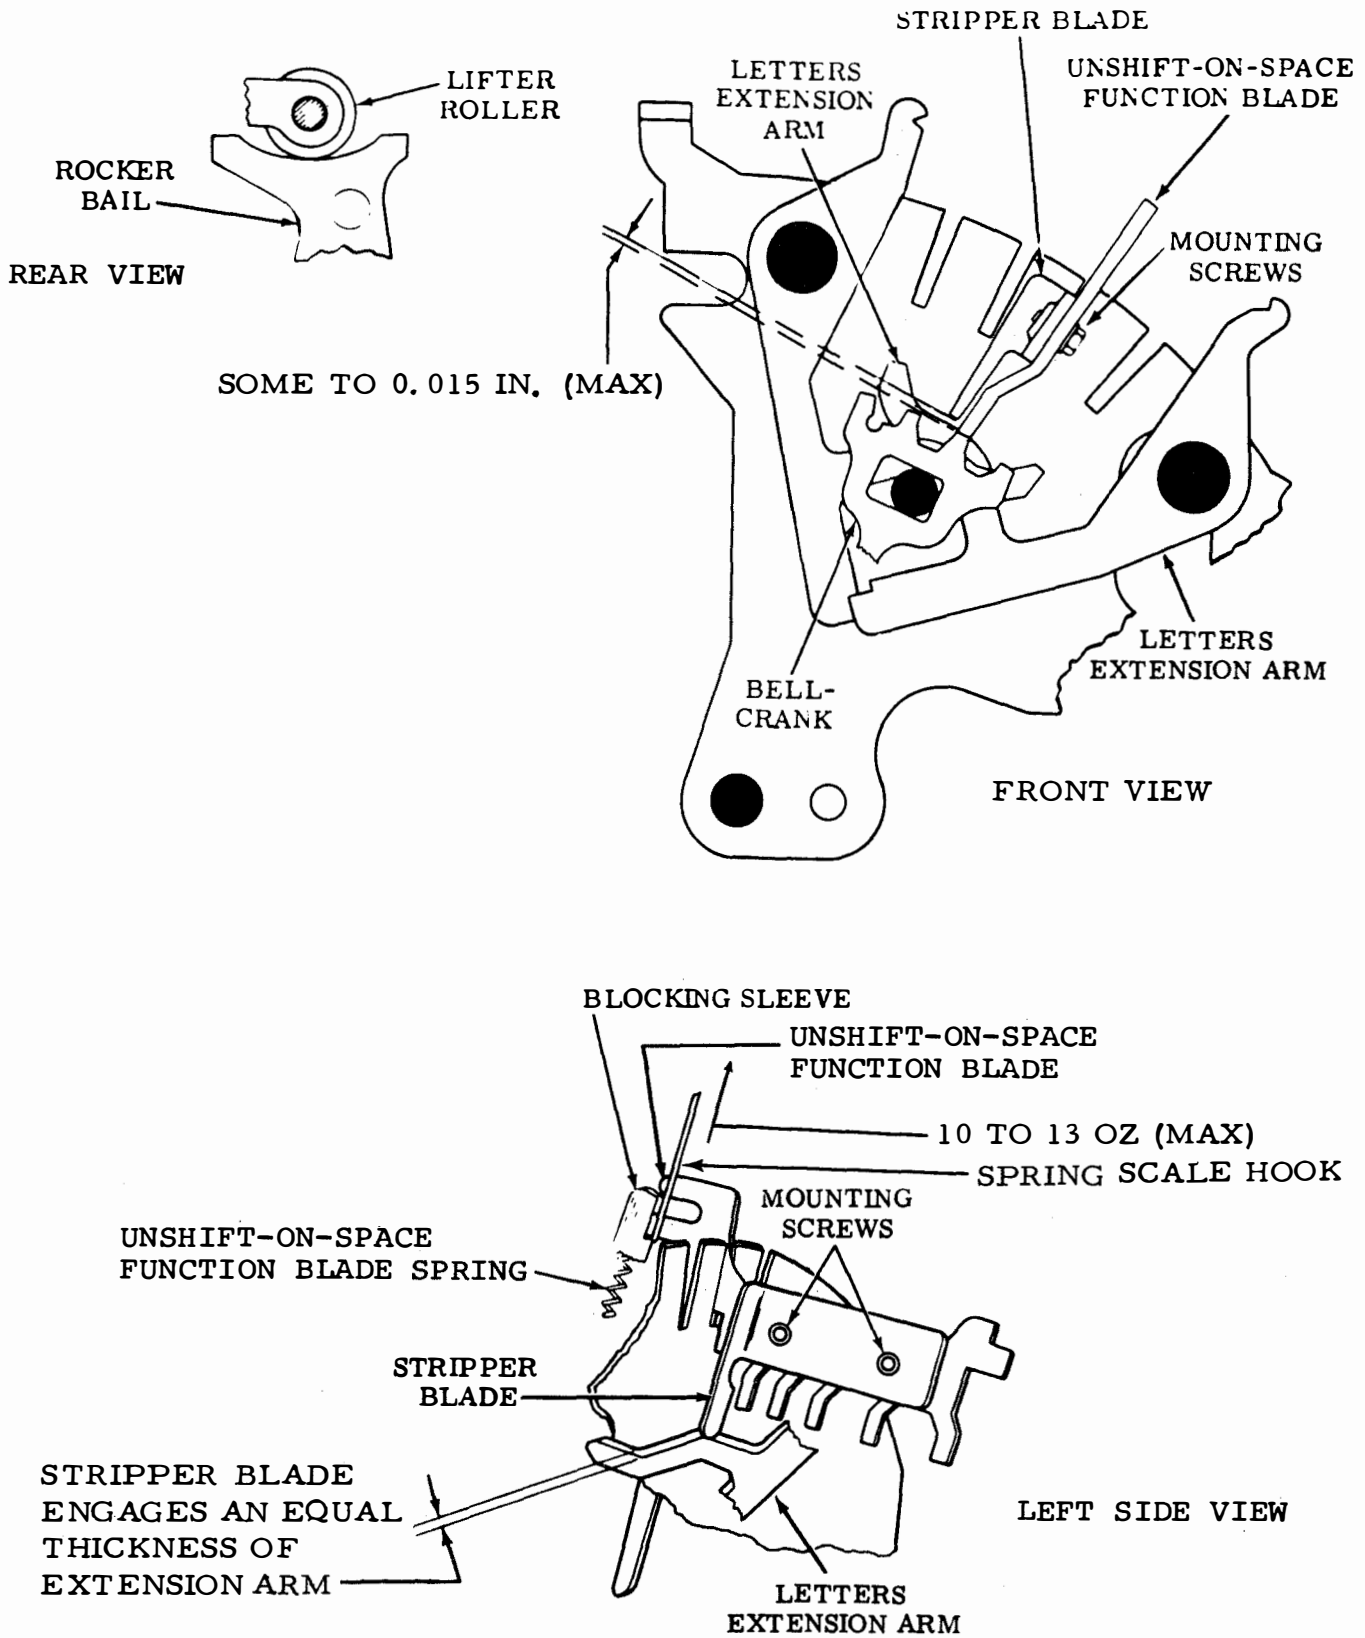

Figure 6-472. Unshift-On-Space Function Blade and Function Blade Spring, Perforator
(1) Unshift-On-Space Function Blade. Adjust as follows:
- (a) Refer to Figure 6-472.
(a) Refer to Figure 6-472.